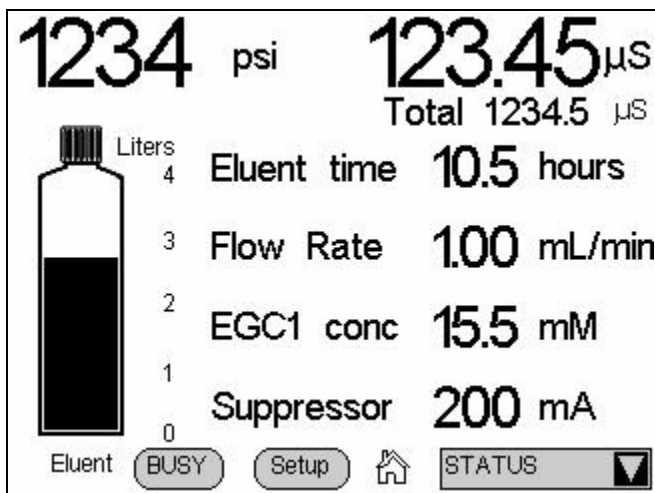

Figure C-9. Status Page
- The fields to the right of the bottle display the status of four other operating parameters. You can choose from eight possible parameters to display here. Figure C-9 shows the default parameters: **Eluent time**, **Flow rate**, **EGC conc**, and **Suppressor**. To select different parameters, touch the **Setup** button. See Section C.6.1 for details about how to change the status parameters, and Section C.6.2 for a description of each parameter.